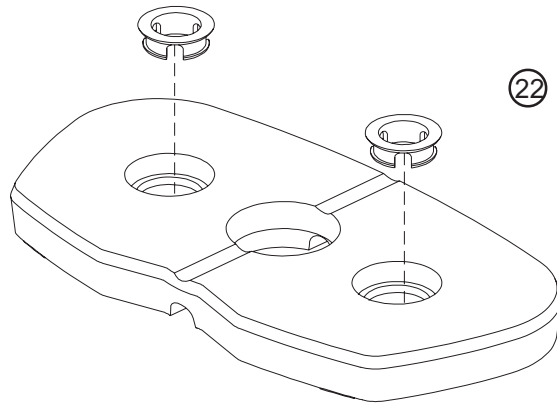

FIGURE 2
CHECK THAT THE HEADPLATE (19) AND WEIGHT PLATES (22) ARE ASSEMBLED AS SHOWN IN FIGURES 2 & 3.